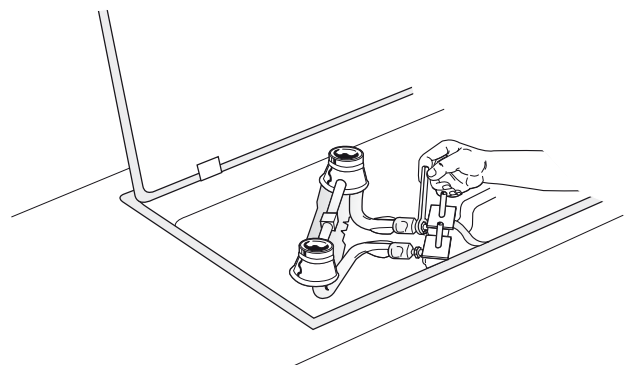

Figure 11
B. Burner Valves Conversion (see figure 11 and 12)